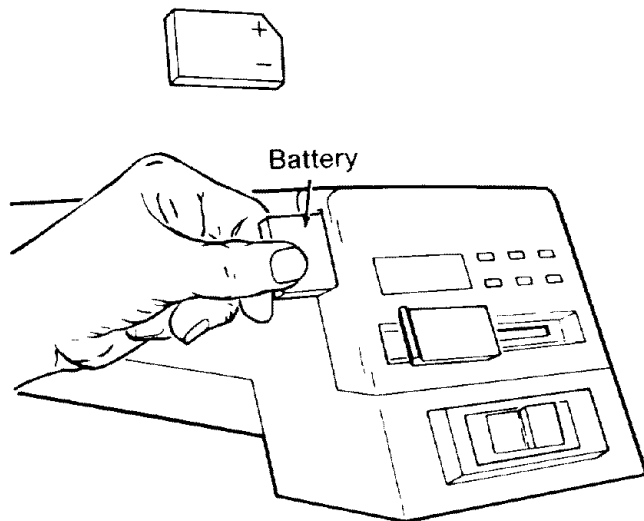

Fig. 103 - Installing the Battery
1. Slide the *battery* into the opening behind the digital display with the angled corner on top. (Figure 103)